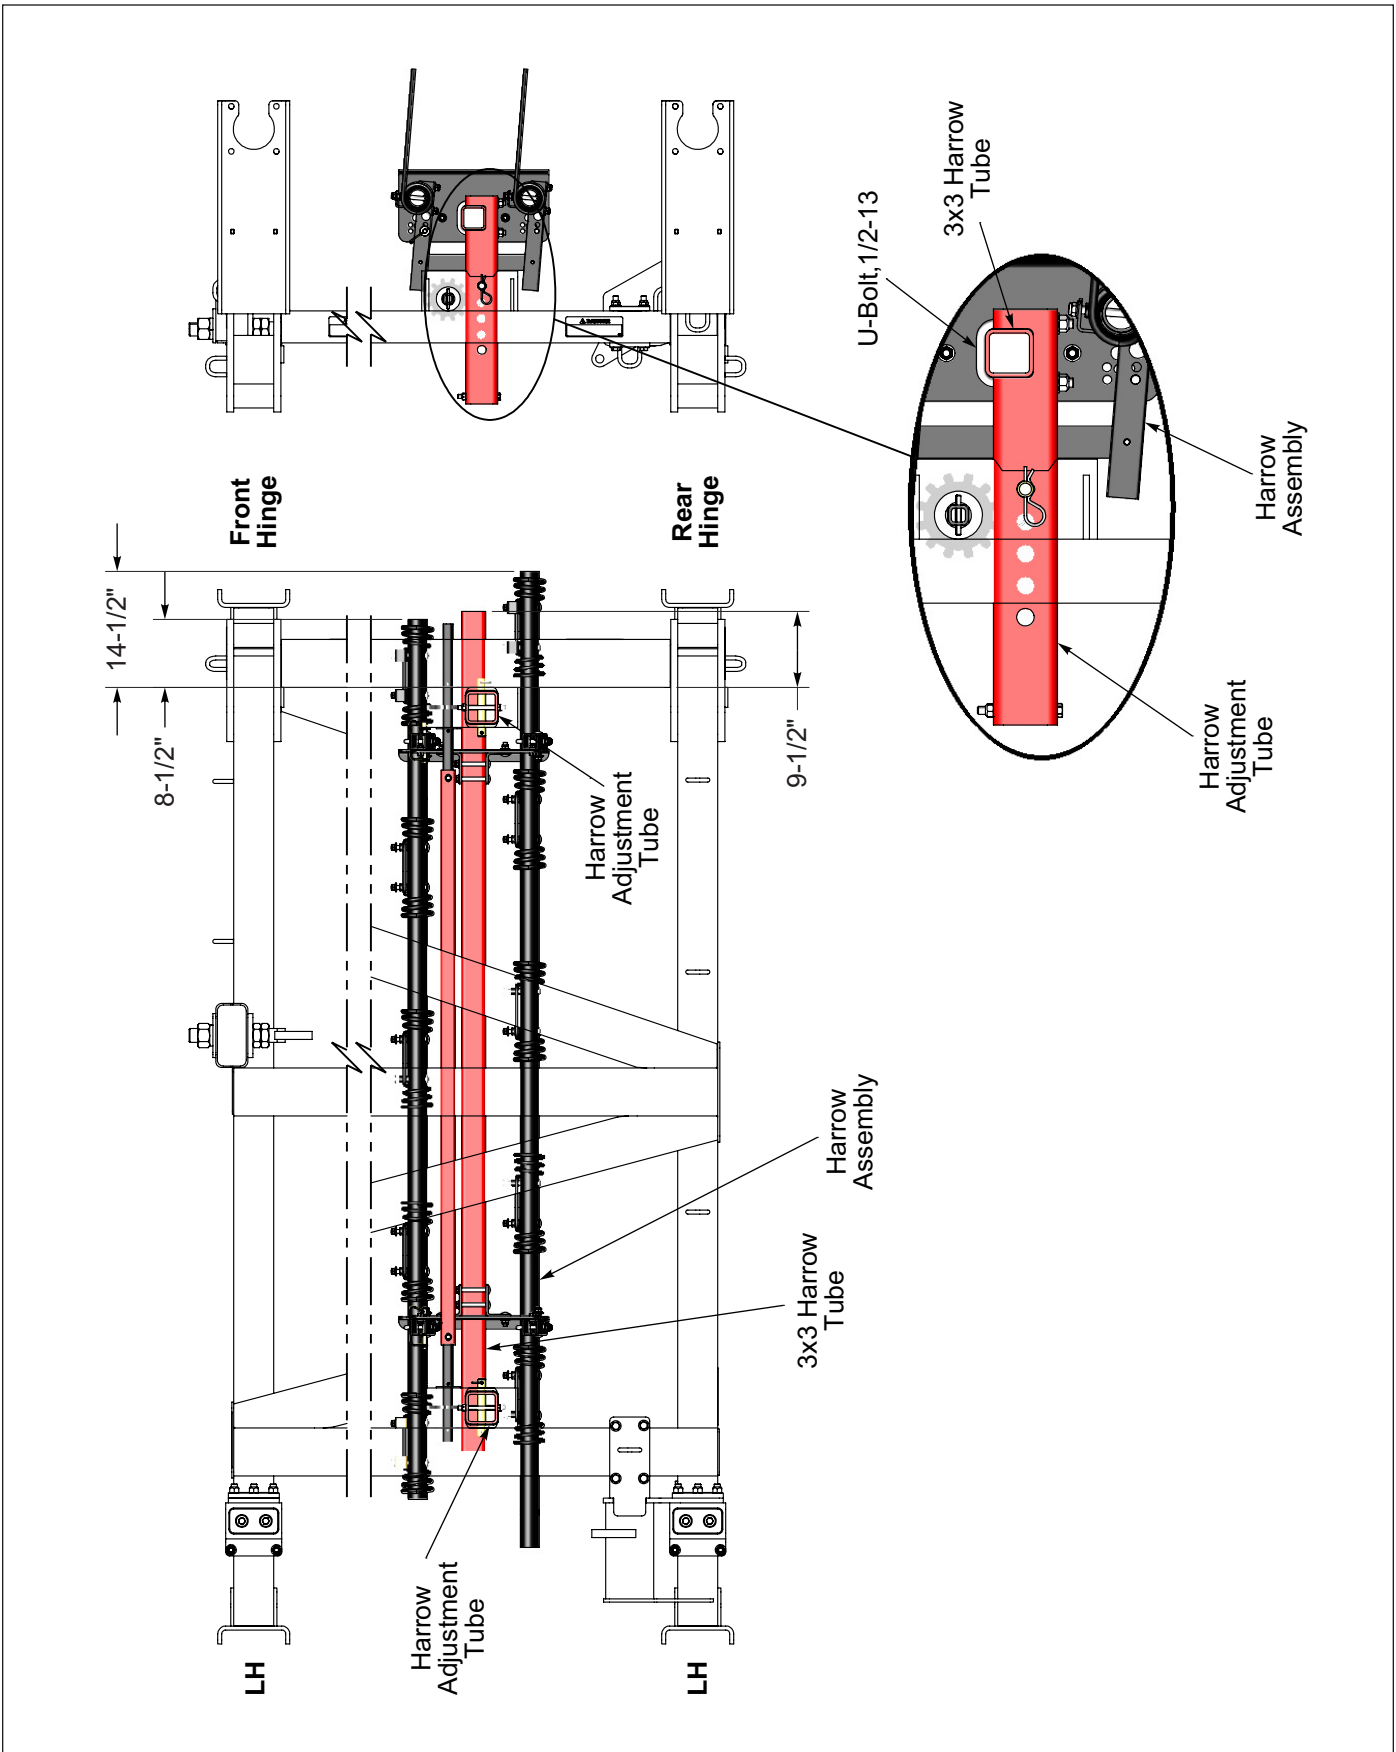

Figure 2-71: Left Hand Wing Harrow Dimension
2. The LH and RH Wing 2-Bar Harrow comes factory assembled. Lift Harrow Assembly and slide the Harrow 3 x 3 Tube into the cut-out portion of the Harrow Adjustment Tube and insert a 1/2-13 U-Bolt on each side. Check Harrow position in relation to the Frame and secure with Flat Washer and Locknut. See Figures 2-71 and 2-72.